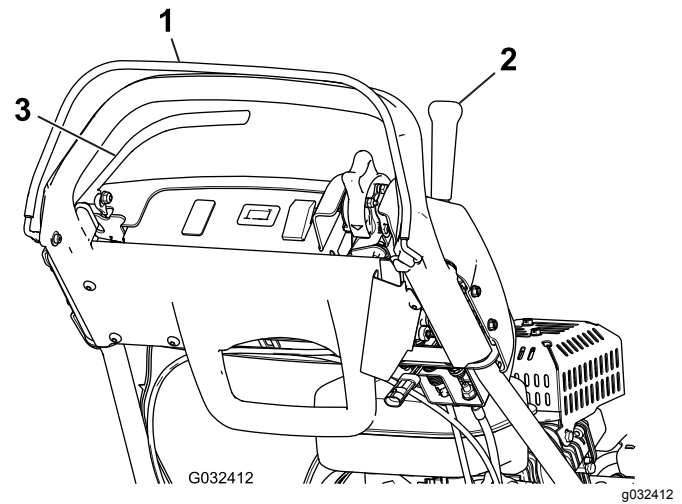

Figure 31
3. With the OPC released, attempt to engage the traction lever (Figure 31). The traction lever should not engage. If the traction lever engages, the interlock system needs service. Correct the problem before operating; refer to Servicing the Traction Interlock Switch (page 30).
4. With the OPC pressed and the traction lever engaged, release the OPC (Figure 31). The traction lever should disengage. If the traction lever does not disengage, the interlock system needs service. Correct the problem before operating; refer to Servicing the Traction Interlock Switch (page 30).
5. With the OPC pressed and the shift lever moved to the left, engage the traction and reel drive, and release the OPC (Figure 31). The traction lever should disengage. If the traction lever does not disengage, the interlock system needs service. Correct the problem before operating; refer to Servicing the Traction Interlock Switch (page 30) or Adjusting the Reel Control (page 33).
6. With the OPC pressed and the shift lever moved to the left to engage the traction and reel drive, move the shift lever to the right to disengage the reel drive (Figure 31). The reel drive should disengage. If the reel drive does not disengage, the interlock system needs service. Correct the problem before operating; refer to Adjusting the Reel Control (page 33).
2. With the OPC pressed, the traction lever engaged, and the engine controls in the starting position (Figure 31). Attempt to start the engine. The engine should not start. If the engine starts,
2. With the traction lever disengaged, the service brake engaged, and the engine controls in the starting position (Figure 31), attempt to start the engine. The engine should start. If the engine does not start, the interlock switch needs service. Correct the problem before operating the machine; refer to (page).
3. With the engine running, engage the service brake (not the parking brake), press the OPC, and engage the traction lever (Figure 31). The engine should labor to overcome the brake but should not shut off. If the engine shuts off immediately, the interlock switch needs service. Correct the problem before operating the machine; refer to (page).
4. With the engine running, engage the parking-brake latch, press the OPC, and engage the traction lever (Figure 31). The engine should shut off. If the engine does not shut off, the interlock switch needs service. Correct the problem before operating; refer to (page).